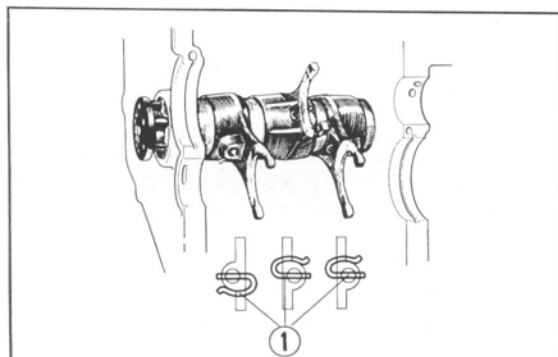

Fig. 128 ① Guide pin clips
3. Place the counterbored section of the shift drum as shown Fig. 128, and install the steel ball, the spring cap, and the spring then lock with the shift drum screw.